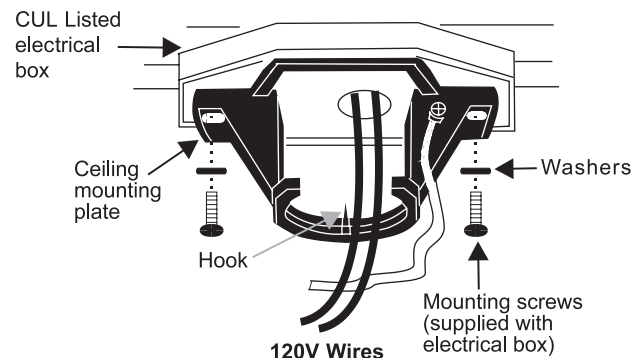

Figure 6
**Step 2.** Pass the 120-volt supply wires through the center hole in the ceiling hanger bracket as shown in Fig. 6.